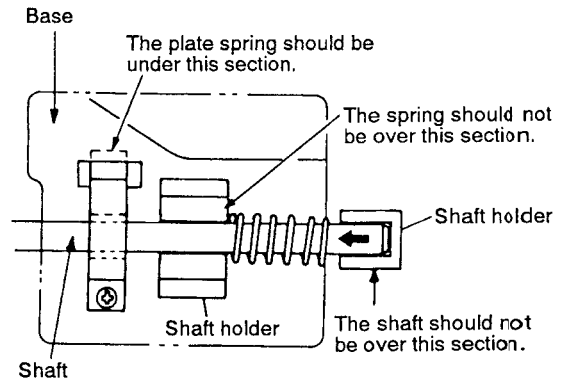
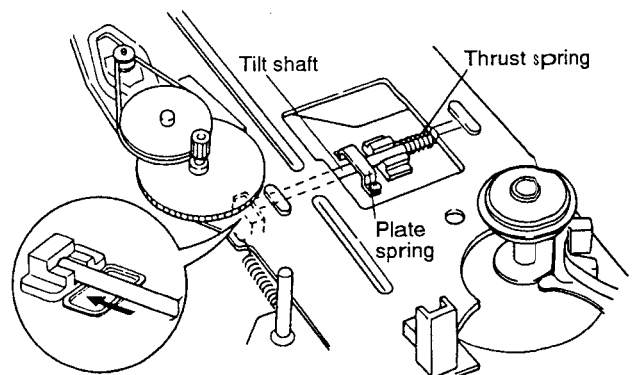

Fig 7-16-1
Fig. 7-16-2
- After inserting the tilt shaft in the position shown in Fig. 7-16-1 of mechanism chassis assembly, mount the servo mechanism base assembly in the direction of the arrow so that the tilt shaft does not come over the shaft holder as shown in Fig. 7-16-2.